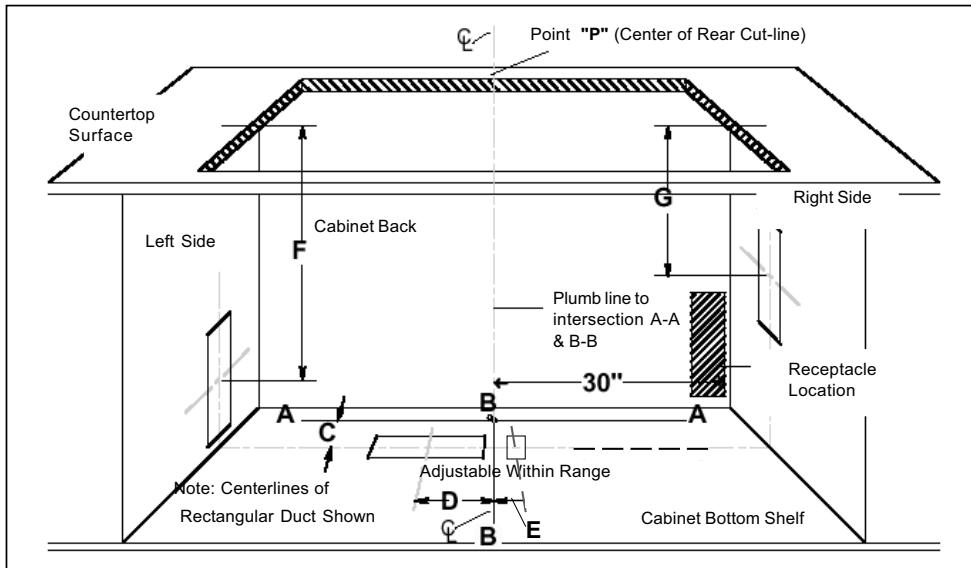

Fig. 9
- Refer to Figure 9. Drop a plumb-line from Point "P" at the rear center of the countertop cutout. Mark this point on the bottom of the cabinet below. Construct two reference lines through this point: one should be parallel to the cabinet front and directly below the rear countertop cutout (Line A-A), and the other (Line B-B) should be at right angles to A-A.
See Figure 9. The cord should be routed beneath the appliance and away from heat generated by the cooktop. Access should not be obstructed by blower, cabinet work, ductwork or electrical/gas utilities for the cooktop. All power for the vent system (including the remote blower, if used) is supplied via the cord to the intake unit. The outlet can usually be extended from another kitchen outlet or have its own circuit from the main service panel.